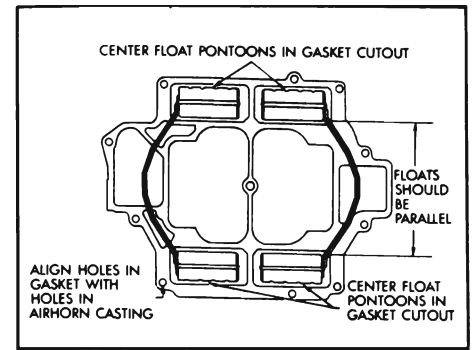

Figure 3-50—Float Alignment
19. Align pontoons to make sure they do not rub side of carburetor bowl. They are aligned correctly when they are parallel and centered in the gasket cut-outs. See Figure 3-50. Bend float arms to align. Do not attempt to bend pontoons at float arm attaching point.